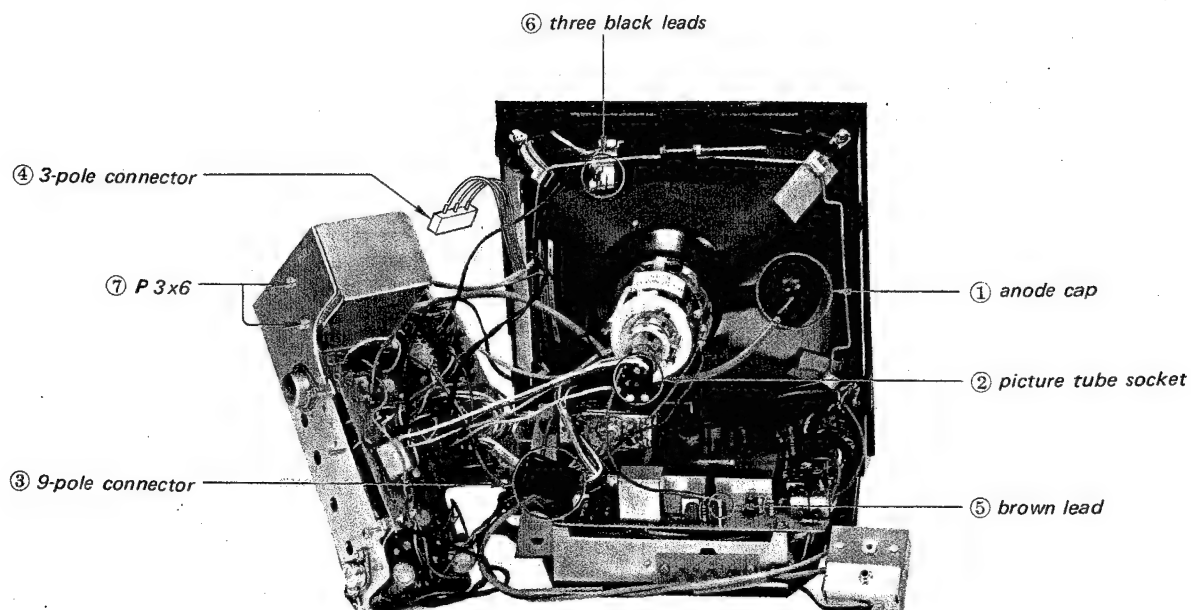

Fig. 5
3. Pull off the anode cap and picture tube socket (① , ② in Fig. 5).
4. Disconnect the 3-pole connector and 9-pole connector (③ , ④ in Fig. 5).
5. Unsolder the three black leads (⑥ in Fig. 5).
6. Unsolder a brown lead (⑤ in Fig. 5).
1. Remove the two screws (⑦ in Fig. 5).